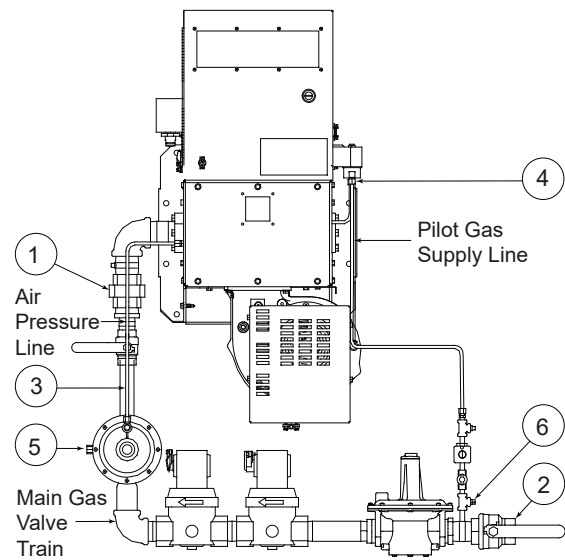

Figure 3 - Typical Valve Train Assembly, UL
The standard V Series burner valve train is pre-assembled and pre-wired, but it will need to be installed to the burner. There are three parts that need to be connected: the main gas valve train, the pilot gas supply line and the air pressure line. See Figure 3.
1. Connect the union on the main gas valve train to the union on the burner (Figure 3 - #1).
2. Connect the gas supply line to the shut-off valve next to the main regulator (Figure 3 - #2).
3. Connect air pressure line from the compression fitting on the burner housing to the brass compression fitting on the ratio regulator (Figure 3 - #3).
4. Connect the Pilot Gas Supply Line to the brass compression fitting that is on pilot gas solenoid valve, which is mounted on the burner control box, and the other end to the tubing has to be connected to the brass fitting at the 1/8" Tee next to the pilot regulator (Figure 3 - #4). (Note: On some variations, the pilot gas solenoid valve is not mounted on the control box. In this case, refer to the assembly drawing provided with the VA burner.)
5. Low fire bypass (Figure 3 - #5).
6. Supply gas pressure tap (Figure 3 - #6).